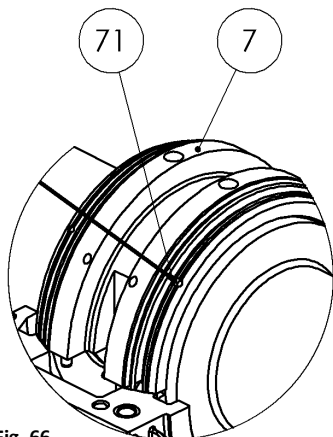

Fig. 66
- Place the lower part of the bearing shell (7) on the shaft seat.
- Insert the RTD rod through the hole of the bearing shell and then place the rod into the thrust pads hole (see fig. 66).